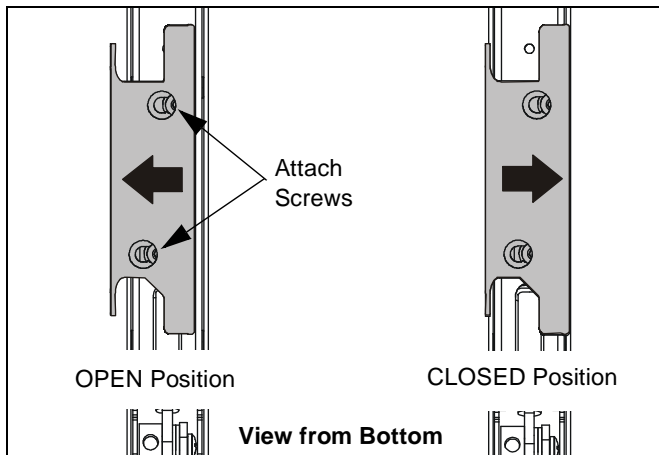

Figure 5
2. Open the cable management bracket by sliding it towards the edge of the arm (See Figure 5).
4. Close cable management bracket by sliding it back towards the centerline of the arm (See Figure 5).